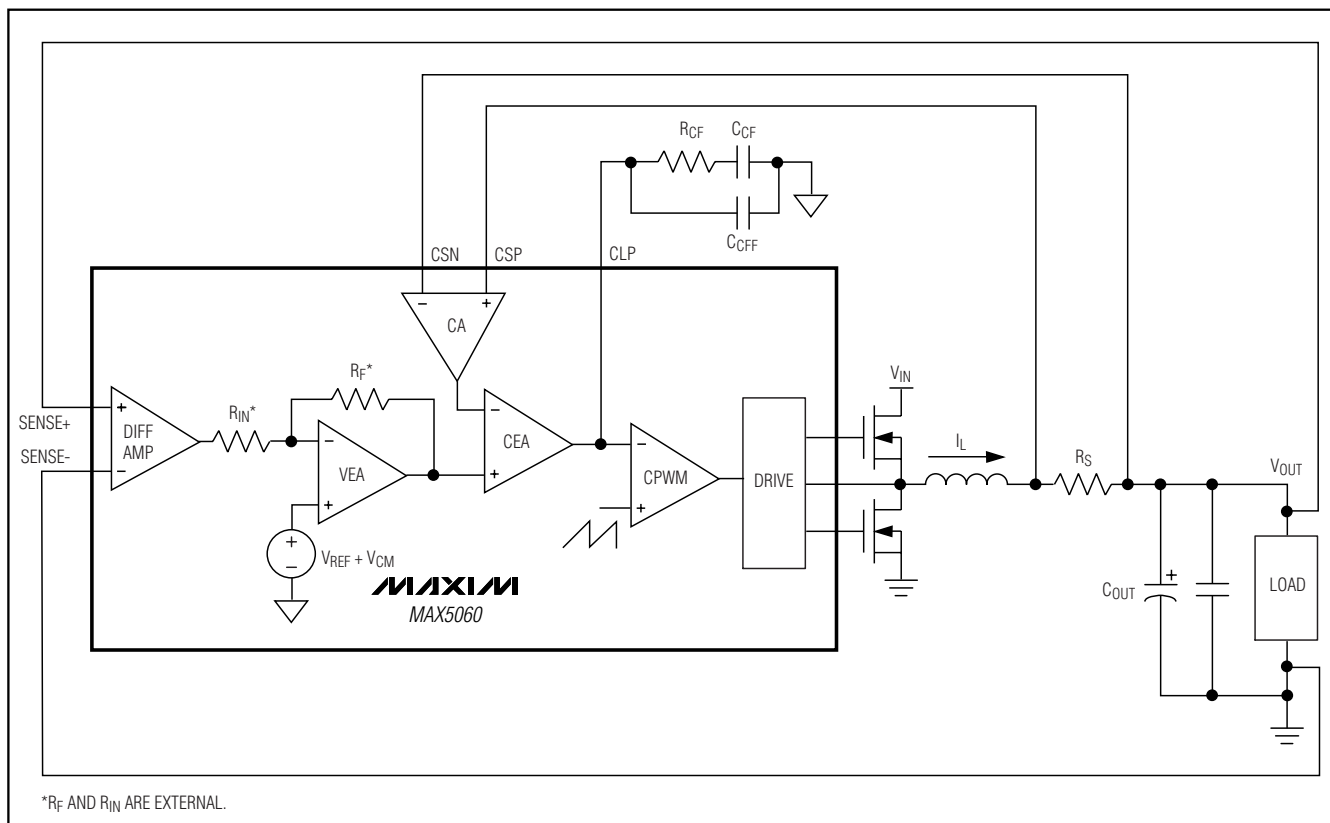

Figure 5. MAX5060 Control Loop
The MAX5060/MAX5061 use an average-current-mode control scheme to regulate the output voltage (Figure 5). The main control loop consists of an inner current loop and an outer voltage loop. The inner loop controls the output current (IPHASE), while the outer loop controls the output voltage. The inner current loop absorbs the inductor pole reducing the order of the outer voltage loop to that of a single-pole system.
The peak-current comparator provides a path for fast cycle-by-cycle current limit during extreme fault conditions such as an output inductor malfunction (Figure 5). Note the average current-limit threshold of 26.9mV still limits the output current during short-circuit conditions. To prevent inductor saturation, select an output inductor with a saturation current specification greater than the average current limit. Proper inductor selection ensures that only the extreme conditions trip peak-current comparator, such as a broken output inductor. The 60mV threshold for triggering the peak-current limit is twice the full-scale average current-limit voltage threshold. The peak-current comparator has only a 260ns delay.
The MAX5060/MAX5061 has a transconductance current-error amplifier (CEA) with a typical  $g_m$  of 550 $\mu$ S and 320 $\mu$ A output sink- and source-current capability. The current-error amplifier output CLP, serves as the inverting input to the PWM comparator. CLP is externally accessible to provide frequency compensation for the inner current loops (Figure 5). Compensate (CEA) so the inductor current down slope, which becomes the up slope to the inverting input of the PWM comparator, is less than the slope of the internally generated voltage ramp (see the *Compensation* section).
The PWM comparator (CPWM) sets the duty cycle for each cycle by comparing the output of the current-error amplifier to a 2VP-P ramp. At the start of each clock cycle, an R-S flip-flop resets and the high-side driver (DH) turns on. The comparator sets the flip-flop as soon as the ramp voltage exceeds the CLP voltage, thus terminating the ON cycle (Figure 5).
The differential amplifier (DIFF AMP) facilitates output-voltage remote sensing at the load (Figure 5). It provides true-differential output voltage sensing while rejecting the common-mode voltage errors due to high-current ground paths. Sensing the output voltage
Set the voltage-positioning window ( $\Delta V_{OUT}$ ) using the resistive feedback of the voltage-error amplifier (VEA). Use the following equations to calculate the voltage-positioning window (Figure 5):